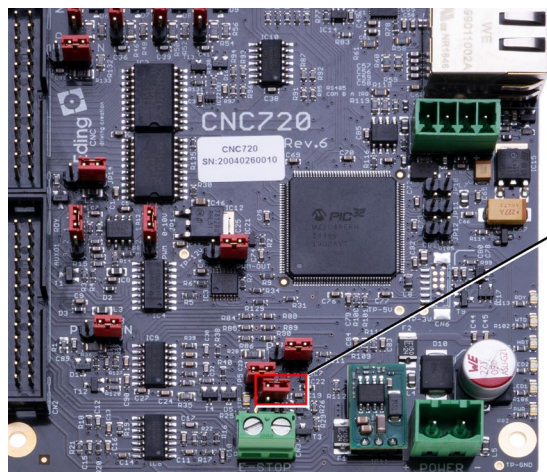

Fig. 10: Correct position of jumpers
- Be sure** to open the jumper on the controller board above the „E-Stop“ terminal, as shown in Fig. 10.